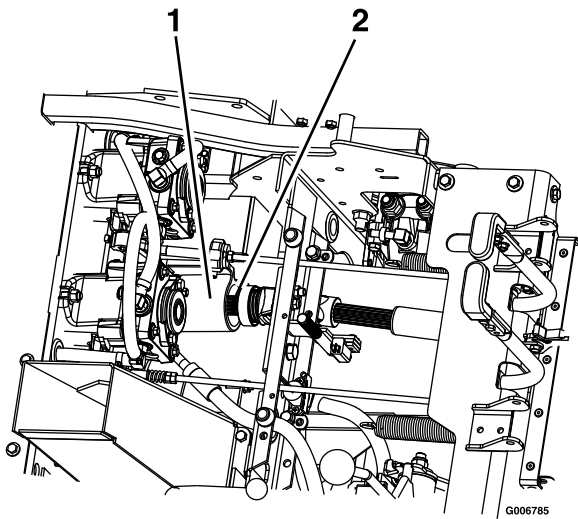

**Figure 80**
8. Loosen the bolts attached to the rubber guard (Figure 80).
8. Align the upper portion of the rubber guard and secure it with the attached bolts (Figure 80).